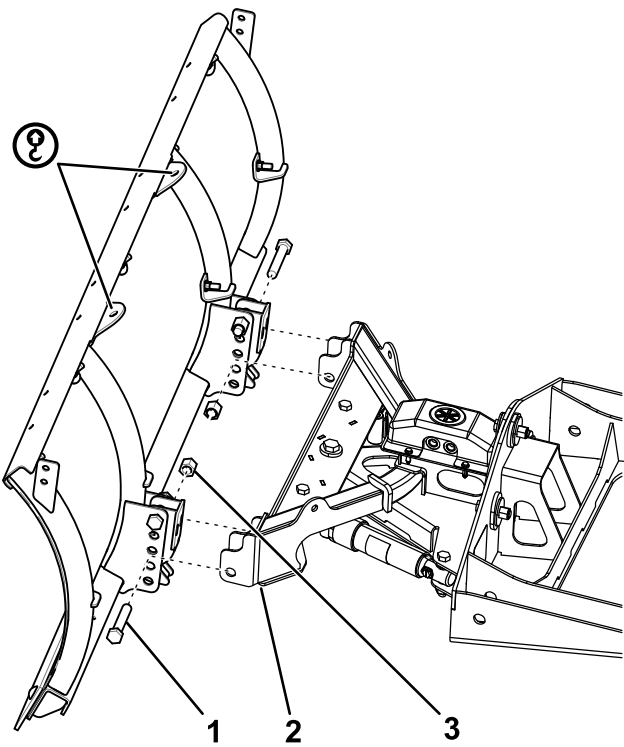

Figure 11
2. Loosely secure the push frame to the plow and mounting brackets using 2 bolts (5/8 inch) and nuts (Figure 11).